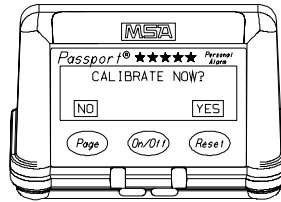

Figure 2-2.
- The instrument turns ON (FIGURE 2-2):